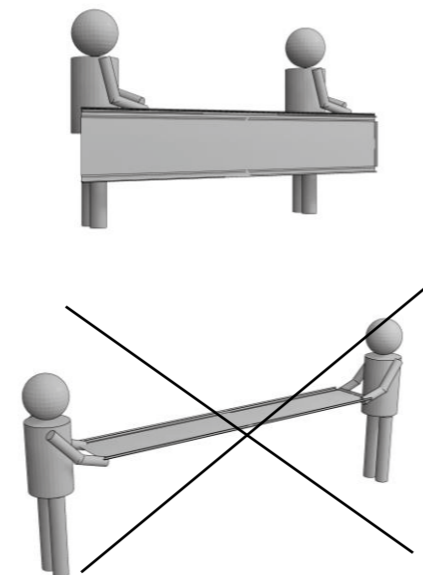

Fig. 3
- The panels should be carried in a vertical position, relatively to the short edge of the panel (Fig. 3).